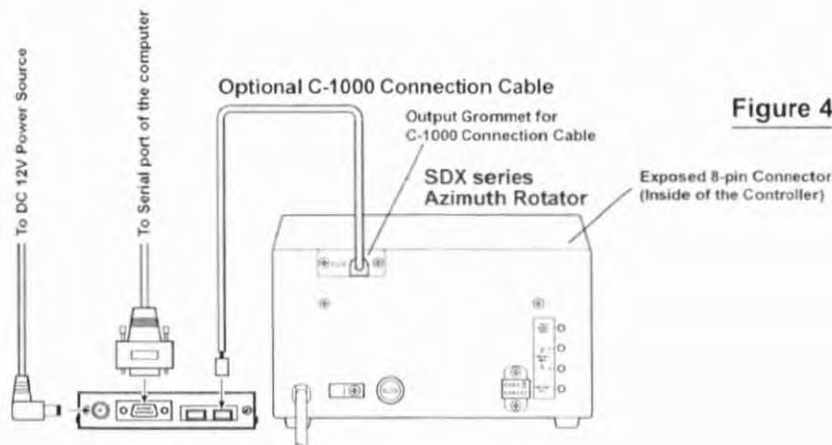

Figure 4
- ☐ Route the 5-pin connector of the **C-1000** Connection cable through out the rubber grommet on the rear panel of the controller, and connect it to the **AZ** connector on the rear panel of the **GS-232B** (Figure 4).